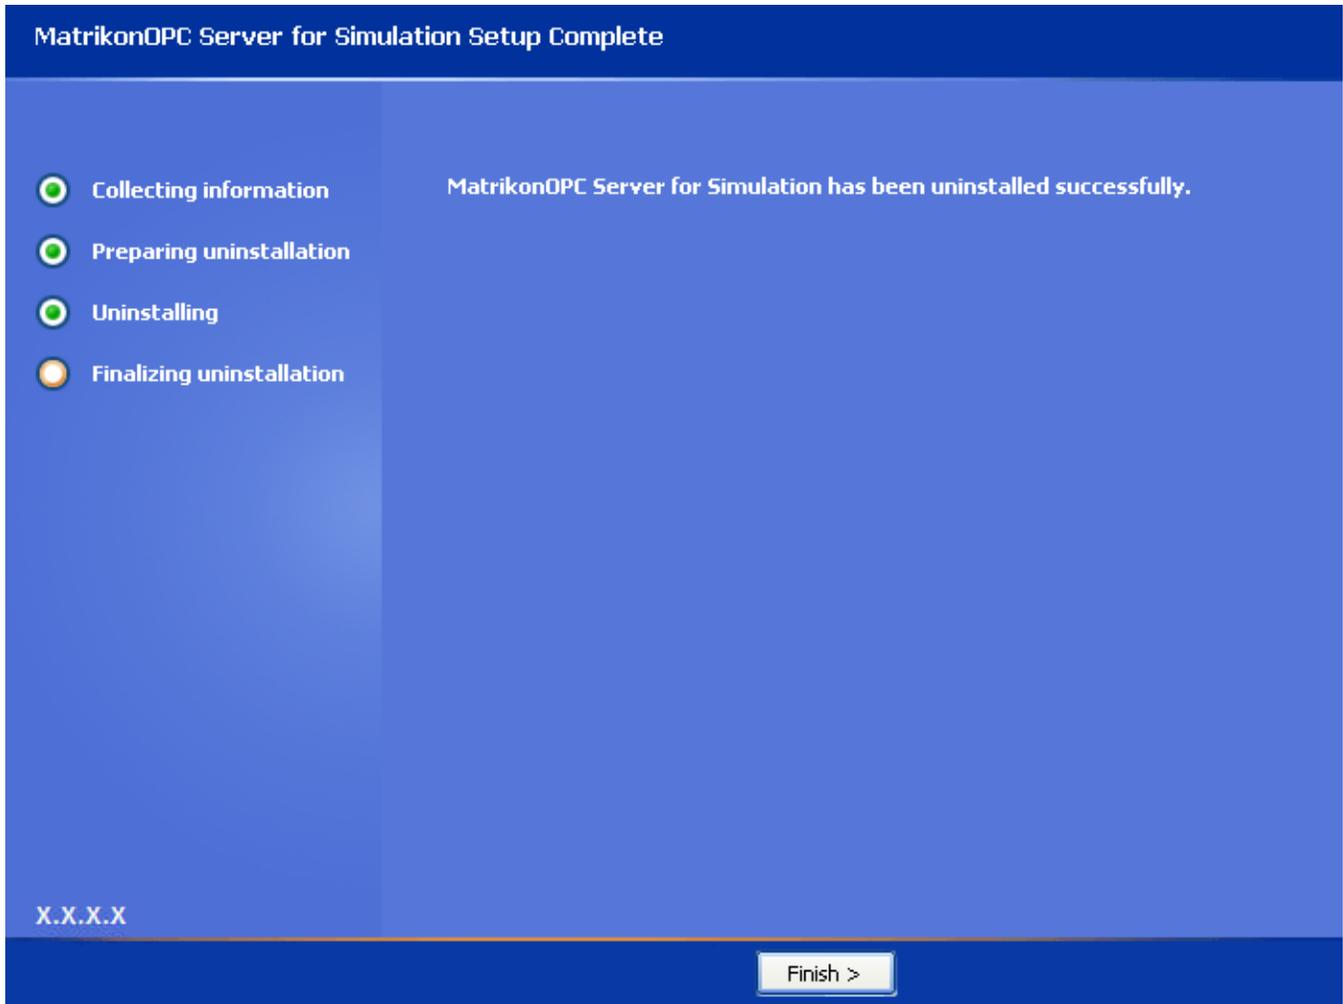

Figure 35 - MatrikonOPC Server for Simulation Setup Complete
- When the un-install has finished, the **MatrikonOPC Server for Simulation Setup Complete** screen (Figure 35) appears stating that MatrikonOPC Server for Simulation was successfully un-installed.